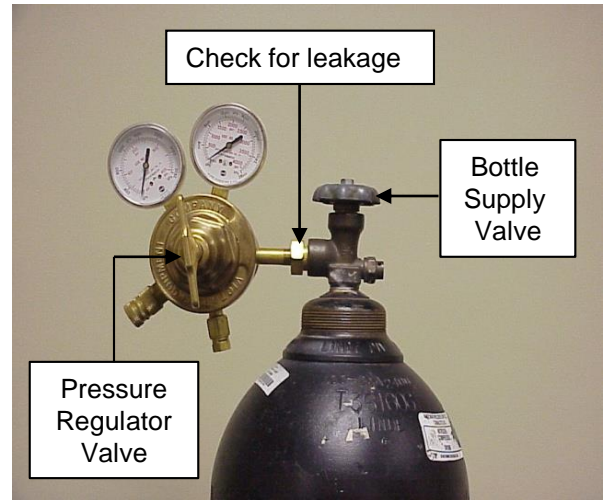

Figure 9
7.2 Thread Pressure Regulator fitting onto bottle valve housing and tighten with large adjustable wrench. **See Fig. 9.**